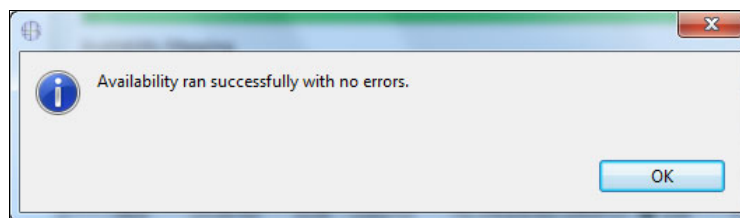

Figure 8-79 CMT - Availability ran successfully with no errors message
6. After the CHPID Mapping Tool resets the CHPIDs, it displays the result of the process (Figure 8-79). Click **OK**.